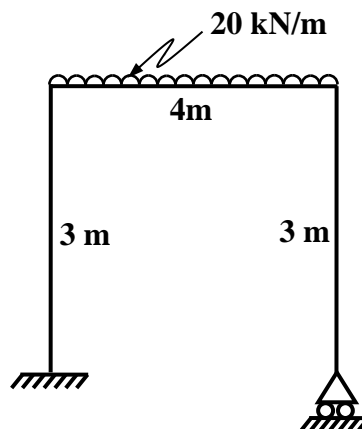

Fig. 5
6. Determine reaction of roller support of the plane frame shown in fig.5.